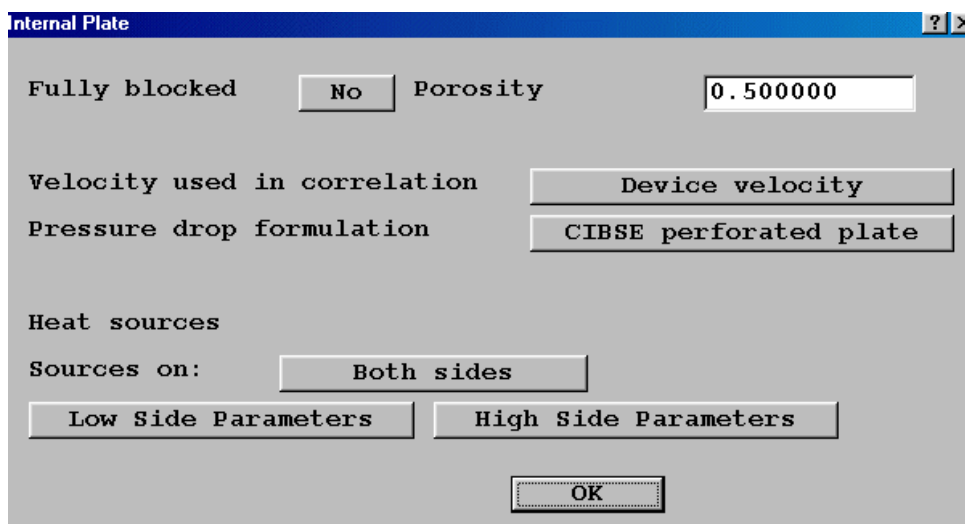

Figure 3.27 The default attributes of the perforated plate
- **perfplate.pob** is a single object plate and its default attributes are shown in figure 3.27 below.